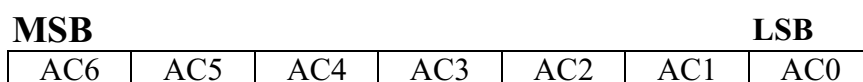

Fig.1. DDRAM Address
DDRAM address is set in the address counter (AC) as a hexadecimal number. (Refer to Fig.1.)